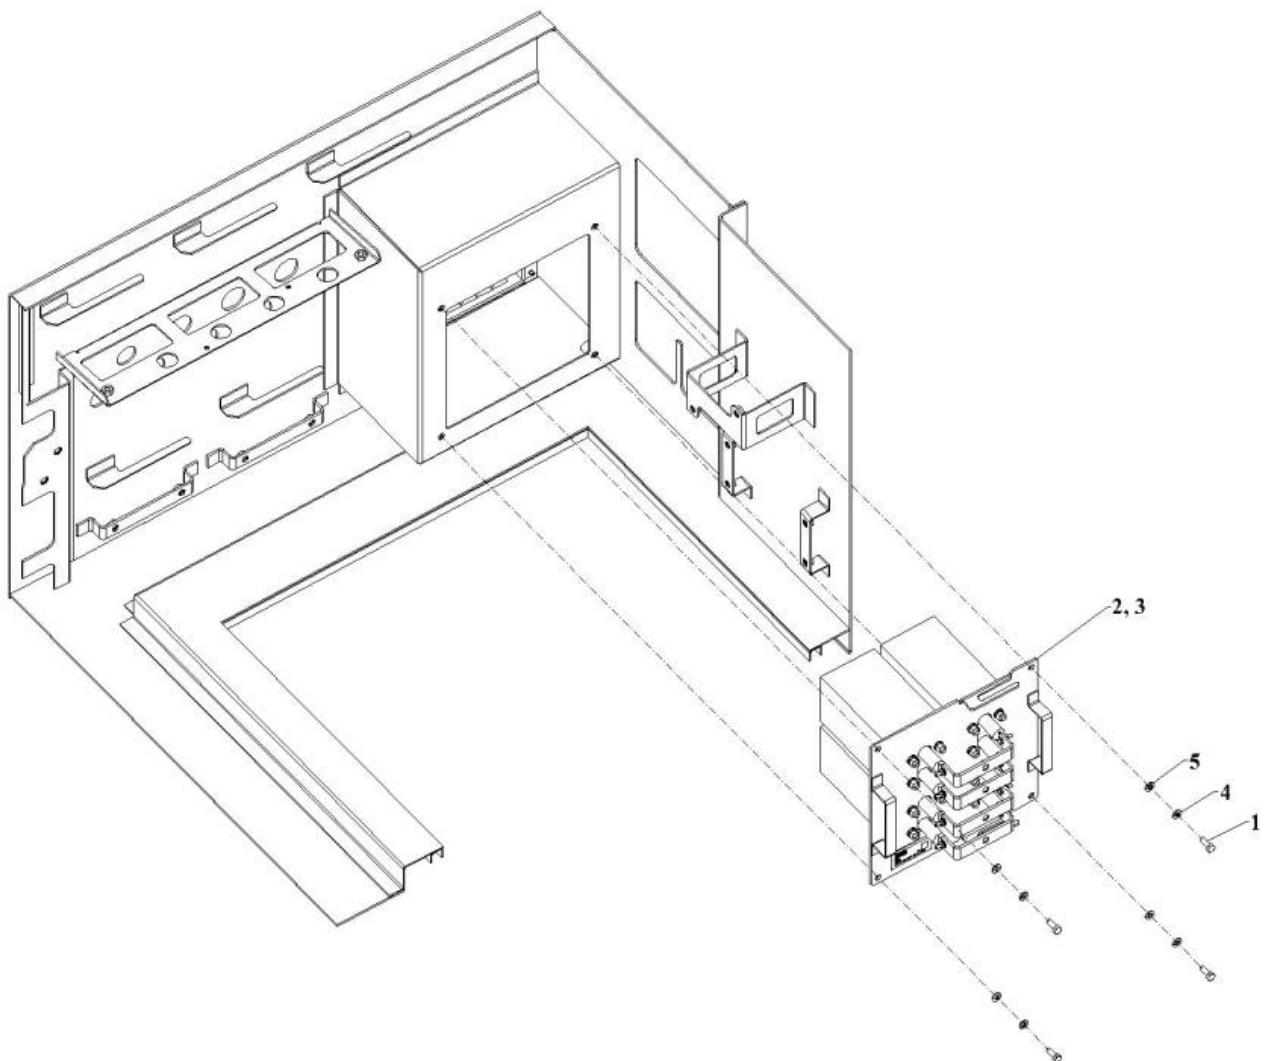

Figure 5-25: Discharge Resistor Installation
5. Loosen the four mounting bolts (1) with a 10 mm socket. The discharge resistor (2) can be removed. Pull to the interior of the equipment case as shown in Figure 5-25.
1. Apply silicon sealant around the inside edge (3) and place into position.
2. Using a 13 mm socket, secure with four M8 hex head bolts, lock washers (4), and flat washers (5) as shown in Figure 5-25. Torque to 5.8 Nm (51 in-lbs.).